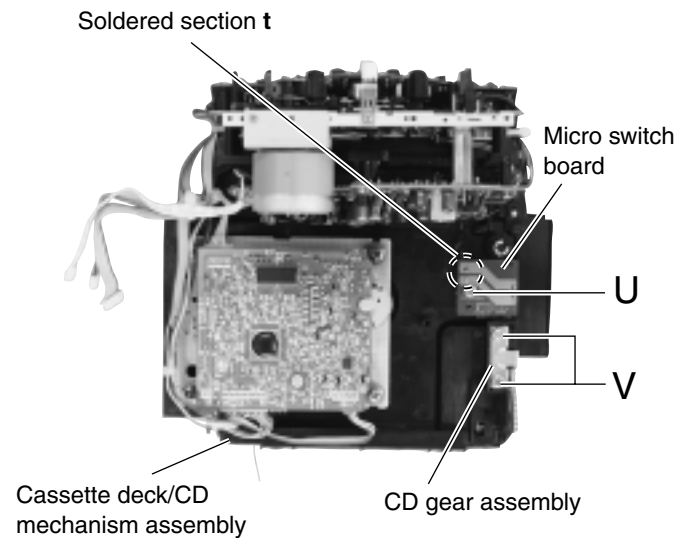

Fig.22
■ Removing the micro switch board (See Fig. 22.)